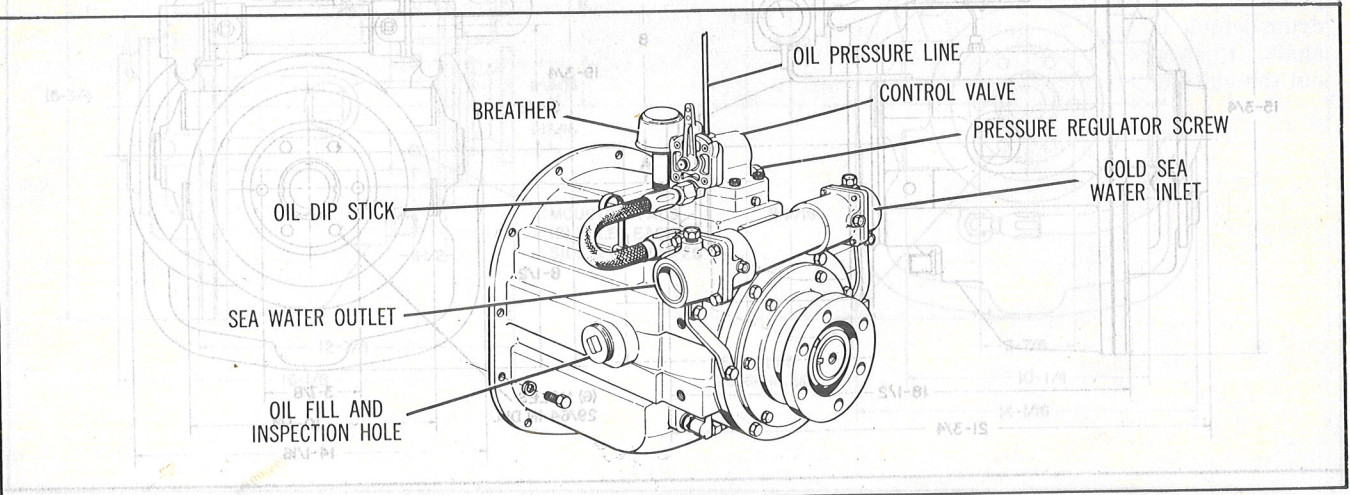

Figure 8. Servicing and Adjustments
- a. Remove plug from oil fill hole (see figure 8) and pour in Lubriplate APG-80 gear lubricant until oil level is up to full mark on dip stick. If unit will be operating in temperatures below 32° F, use Lubriplate APG-75 oil. Operate unit a few minutes, then recheck oil level. Add sufficient oil to bring level to full mark on dip stick. Replace plug in oil fill hole.
- c. Connect oil pressure gage to control valve with 1/4-inch tubing as shown in figure 8. Oil pressure is factory set and should not require adjustment. ~~If necessary, not preadjusted regulator screw on control valve for 90 psi or slightly less with engine idling (400 to 500 rpm). NEVER EXCEED 90 PSI with this adjustment.~~
c. Use an overhead hoist and a suitable sling to lift unit out of boat. Disconnect unit from engine mounting points. Slowly move unit straight aft and away from flywheel. Separate pump housing from reverse gear housing as unit moves aft. Insert a screwdriver or similar tool through oil fill hole, and hold gear case and clutch assembly against flywheel. Gear case and clutch assembly should remain on clutch driving drum and driving stub shaft when unit is removed. When unit clears end of oil filter (see figure 8), lift unit out of boat or place on engine room deck plates.